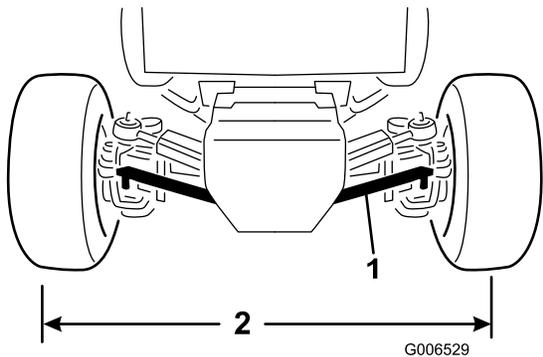

Figure 66
1. Remove cotter pin and castle nut securing 1 tie-rod ball joint to the mounting bracket on the axle and separate the ball joint from the axle (Figure 66).
3. Rotate the tie-rod ball joint in or out until the center-to-center distance at front and back of the rear wheels is the same (Figure 66).